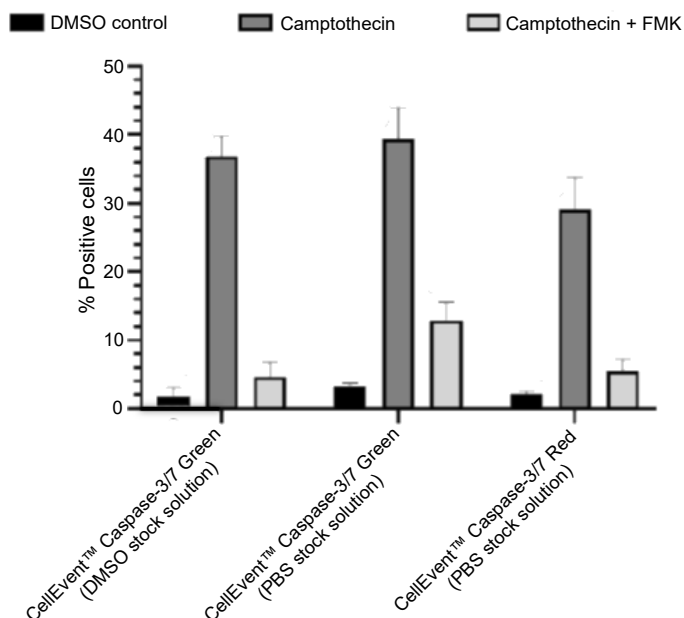

Figure 4 Specificity of CellEvent™ Caspase-3/7 Detection Reagents (green/red)
- **Optimized for apoptosis analysis**—Highly specific for caspase-3/7 activation (see Figure 4).